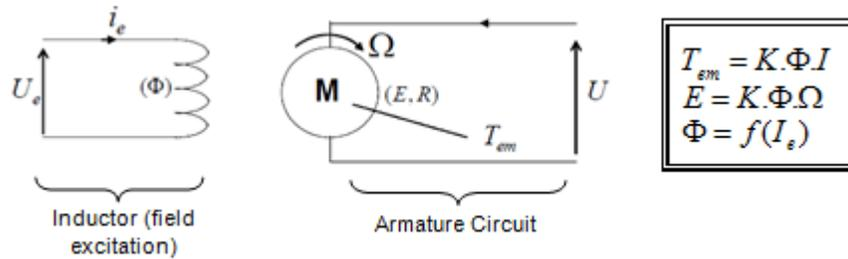

Figure 2-4. Flux and Torque are Independently Controlled in DC Motor Model
In a direct current (DC) Motor, the excitation for the stator and rotor is independently controlled, the produced torque and the flux can be independently tuned as shown in Figure 2-4. The strength of the field excitation (for example, the magnitude of the field excitation current) sets the value of the flux. The current through the rotor windings determines how much torque is produced. The commutator on the rotor plays an interesting part in the torque production. The commutator is in contact with the brushes, and the mechanical construction is designed to switch into the circuit the windings that are mechanically aligned to produce the maximum torque. This arrangement then means that the torque production of the machine is fairly near optimal all the time. The key point here is that the windings are managed to keep the flux produced by the rotor windings orthogonal to the stator field.